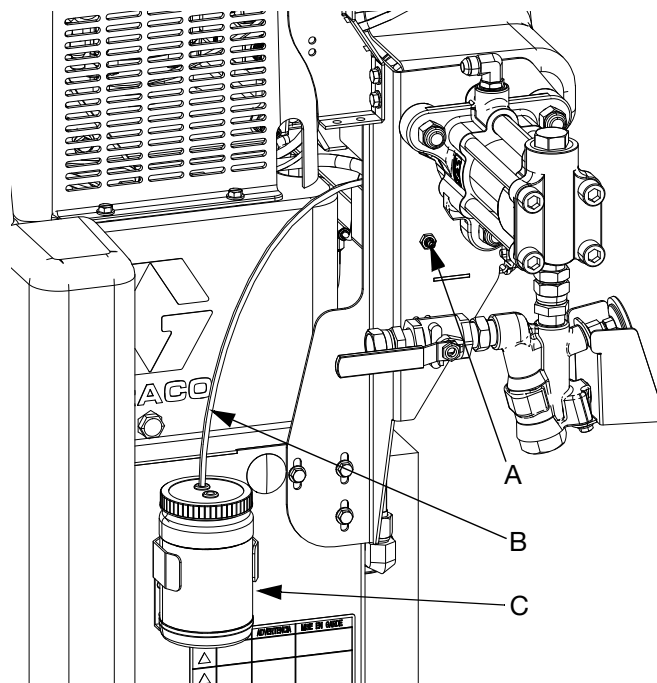

FIG. 19:
- Locate the grease fitting (A) mounted to the pump bracket near the pump that is being greased.
- Attach grease gun to the grease fitting. Pump new grease into the pump until fresh grease is observed discharging from grease relief tube (B) into the grease reservoir bottle (C).
- Repeat for other pump. See FIG. 19.